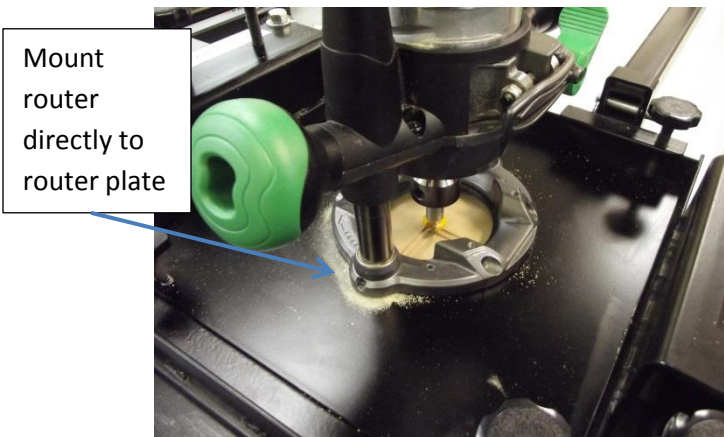

Fig 31
- 5) The plastic router base is not used when mounting the router to the Pro-Cut 50 router insert plate. Using the same screws, mount the router directly to the Pro-Cut 50 router insert plate. (Fig 31)